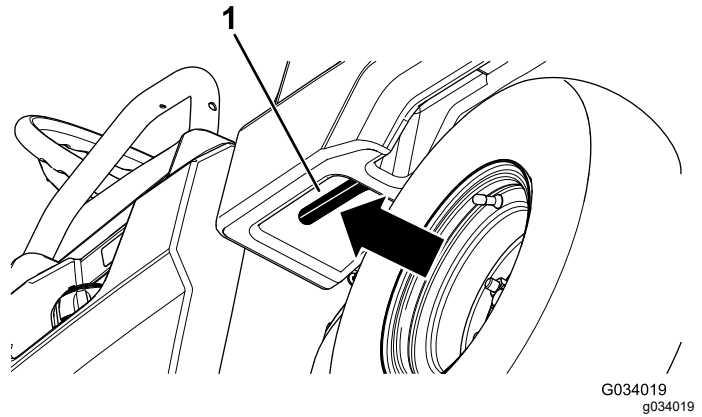

Figure 20
1. Pull the lever on left, inside of the cargo bed toward you and lift the cargo bed up (Figure 20).
1. Raise the cargo bed slightly by lifting up on the latch lever (Figure 20).